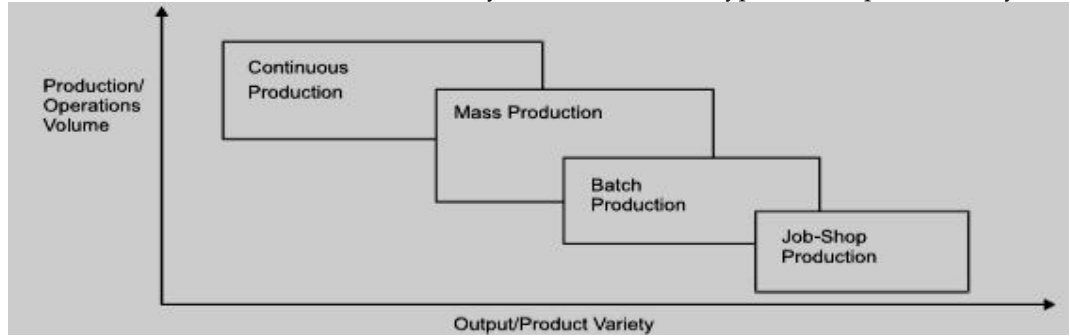

Figure 3.2: Types of Production Systems
3. It is not separate from the rest of the organization's systems. As shown in Figure 3.2, Job Shop, Batch, Mass, and Continuous Production Systems are the four types of the production system